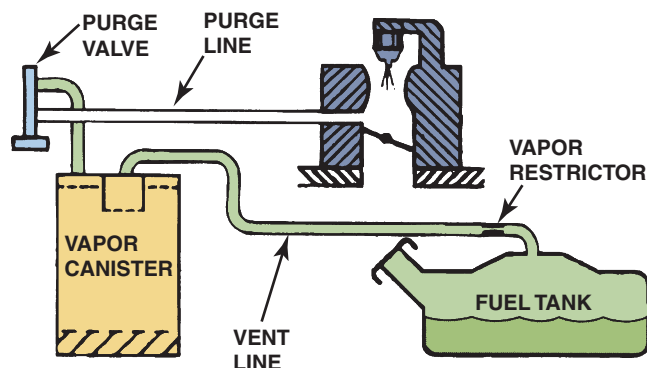

FIGURE 19-31 The evaporative emission control system includes all of the lines, hoses, and valves, plus the charcoal canister.
- **Vapor purging.** During engine operation, stored vapors are drawn from the canister into the engine through a hose connected to the throttle body or the air cleaner. This “purging” process mixes HC vapors from the canister with the existing air-fuel charge. ● **SEE FIGURES 19-31 AND 19-32.**